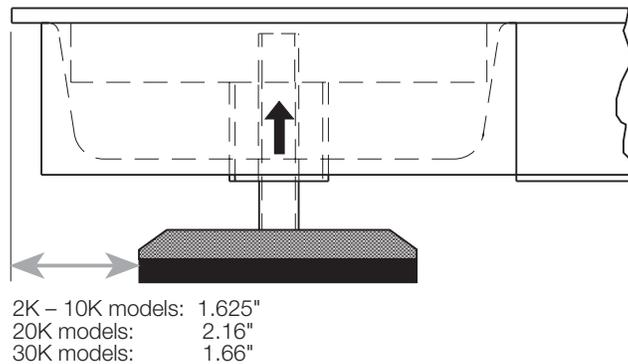

Figure 4-3. Foot Pad - Side View.
6. Position the load cell to maintain the dimension shown in Figure 4-3.